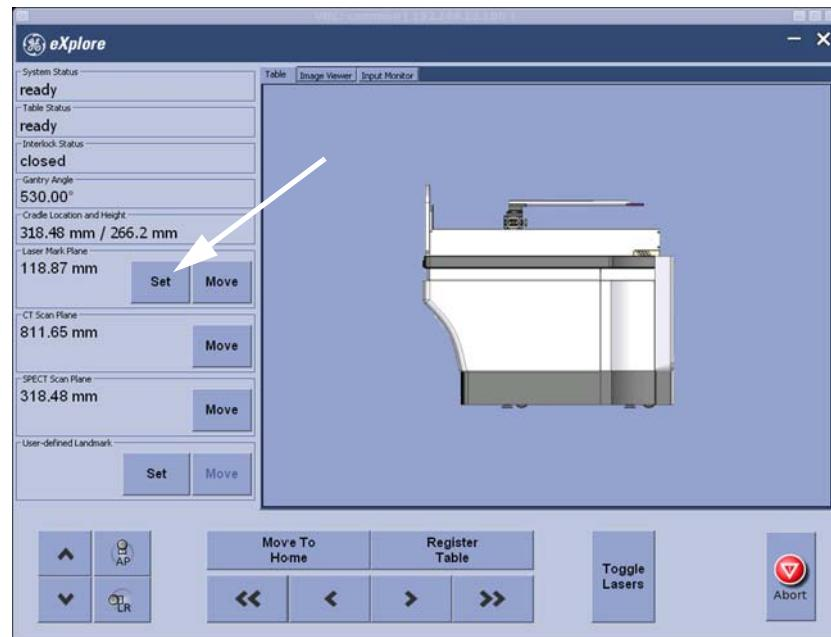

Figure 7-87
- 4.) With the lasers toggled on, position the table such that the laser passes through the center of the phantom. On the Tableside Controller touch screen, set the table landmark at this position by touching the Set button (Figure 7-87).